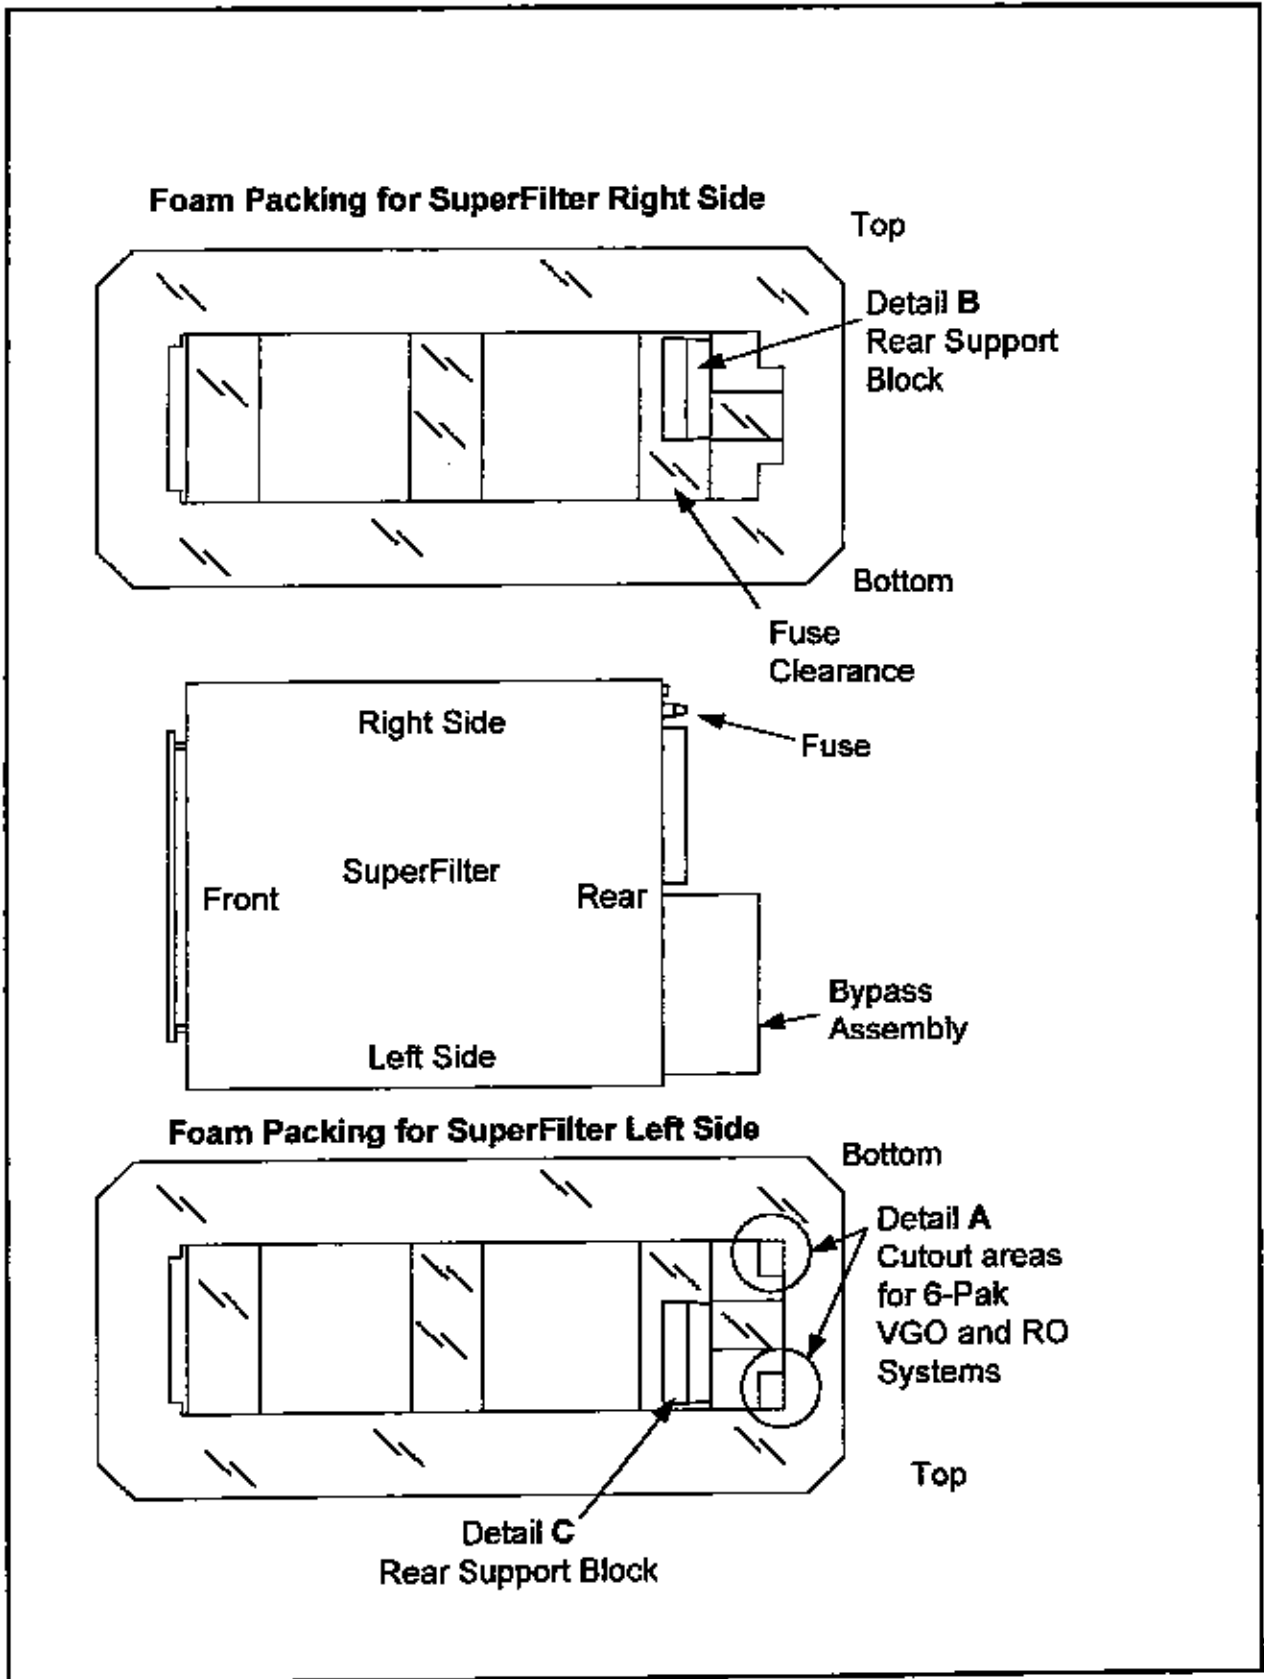

Figure 23. SuperFilter Foam Packaging Installation
5.	Install foam packing material along the right side of the SuperFilter, the side with the fuse. Only one of the two foam packing materials will fit, it has a cutout to accommodate the fuse. Check to ensure that the rear support block is fully engaged above the fuse. See Figure 23, Detail B.
6.	Install the other foam packing material along the left side of the SuperFilter. Check to ensure that the rear support block is fully engaged against the chassis behind the Bypass Assembly. See Figure 23, Detail C.